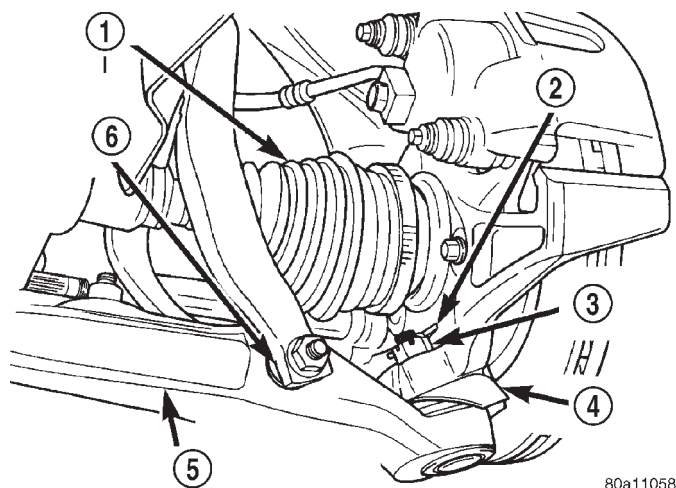
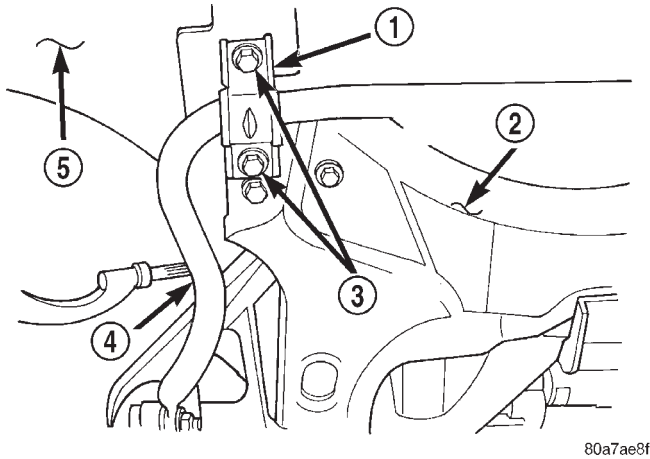

Fig. 45 Lower Ball Joint Attachment To Steering Knuckle
Fig. 49 Stabilizer Bar Bushing Clamp Attachment To Vehicle
(5) Remove cotter pin and castle nut (Fig. 45) from stud of lower ball joint.
(9) Remove the bolts (Fig. 49) attaching the one stabilizer bar bushing clamp to the front suspension crossmember and the body of the vehicle.
(3) Install the lower control arm ball joint stud into the steering knuckle. Install the steering knuckle to ball joint stud castle nut (Fig. 45).
(5) Tighten the lower control arm ball joint stud castle nut (Fig. 45) to a torque of 74 N·m (55 ft. lbs.). Install the cotter pin (Fig. 45) in the ball joint stud.
(6) Position sway bar link into its lower control arm mounting hole.
(7) Align sway bar bushing clamp with mounting holes in front suspension crossmember and body of vehicle. Then install and securely tighten the bushing clamp mounting bolts (Fig. 49) to a torque of 61 N·m (45 ft. lbs.).